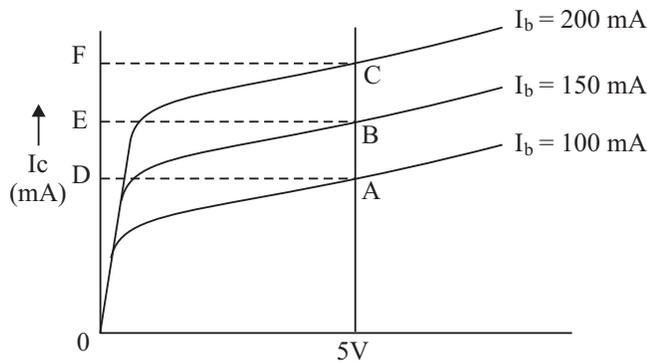

Fig. 27.7
- (iii) Plot graphs from the data recorded in above three tables. The graphs obtained and shown in fig. 27.7. These are the characteristics of CL100 in CE mode. At low  $V_{ce}$  a fraction of charge carriers injected into the base region are collected by the collector and hence  $I_c$  is small. As  $V_{ce}$  increases more and more carriers get collected, hence  $I_c$  rises rapidly. When all the carriers have been collected  $I_c$  becomes nearly constant. This explains the shape of the characteristics curves.
- (iv) To find the current amplification factor  $\beta$  of the transistor draw a vertical line perpendicular to  $V_{ce}$  axis at say -5V point. Let it cut the three curves at A, B and C as shown in Fig. 27.7. Now from points A, B and C draw perpendiculars on the  $I_c$  axis. Let these meet the axis at points D, E and F as shown in Fig. 27.7.
(iv) From your experimental curves (Fig. 27.7) find out how will  $\beta$  change with  $V_{ce}$ .